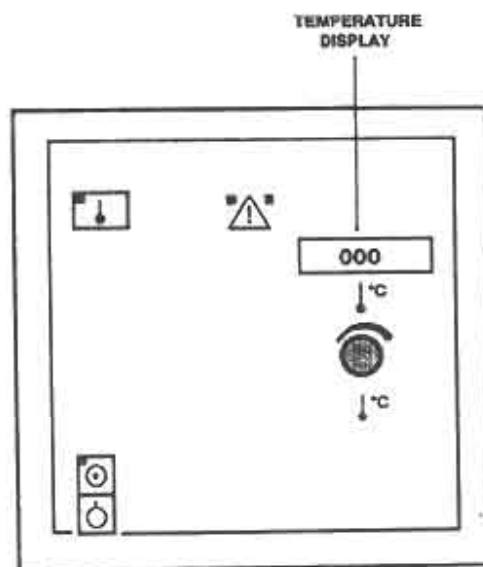

Figure 3-8. Temperature control calibration display.
- (1) Place the voltmeter negative probe on P6 - J1 and the positive probe on P1 - J1.
- (2) Adjust resistor "R26" until the voltmeter indicates $+2.0 \text{ VDC} \pm 0.005$.
- g. Connect a temporary jumper from the upper end of resistor "R29" to P3 - J1. Adjust resistor "R23" so that the temperature display is "000" (fig 3-8).
- (1) Lift the control housing slightly upward to release the latch and then lower it.
- (2) Open the storage compartment door.
- (3) Twist the screw located in the lower right corner to lock the control housing.
- (4) Close the storage compartment door.